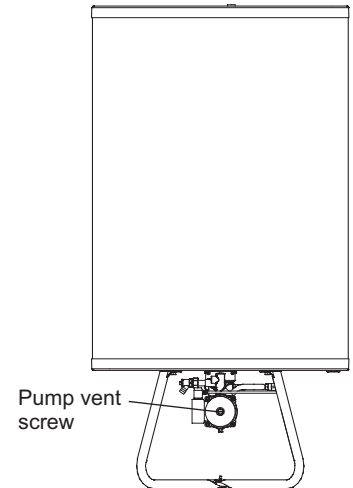

Fig. 19
3. It is important to vent the solar cylinder pump by unscrewing the centre cap from the pump head (see Fig. 19) until water runs from it and then replace the cap.